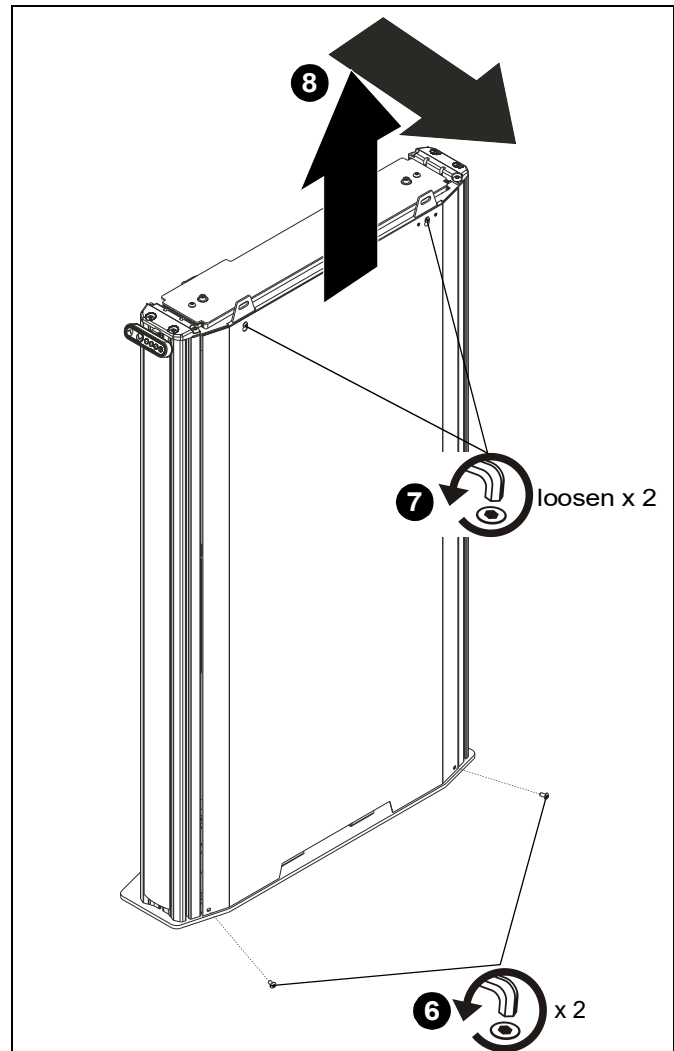

Figure 4
6. Remove bottom two screws from back cover. (See Figure 4)
7. Loosen top two screws from back cover. (See Figure 4)
8. Remove back cover by lifting cover up and out. (See Figure 4)